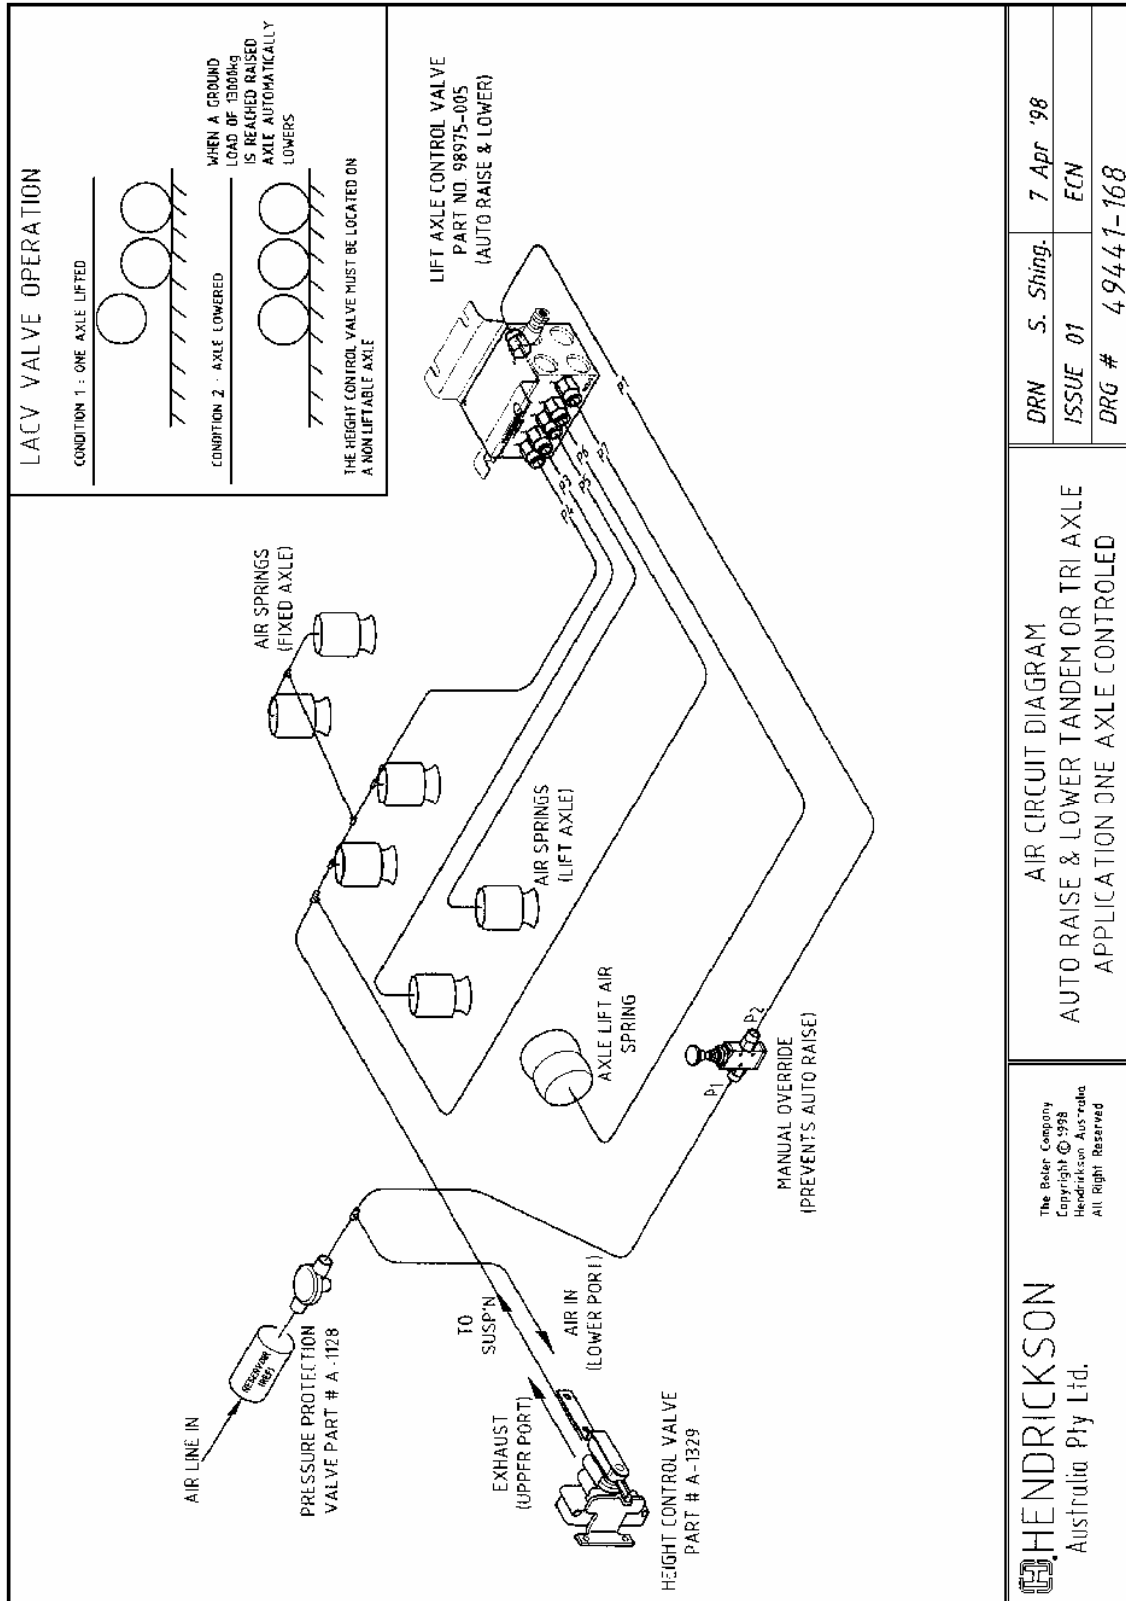

Figure 4
- The pressure signal used to pilot the valve must be taken from port "P4". A full system plumbing schematic is shown at the end of this Section as Figure 4.
The Hendrickson ALACV has a manual override valve which is shown schematically in Figure 4.